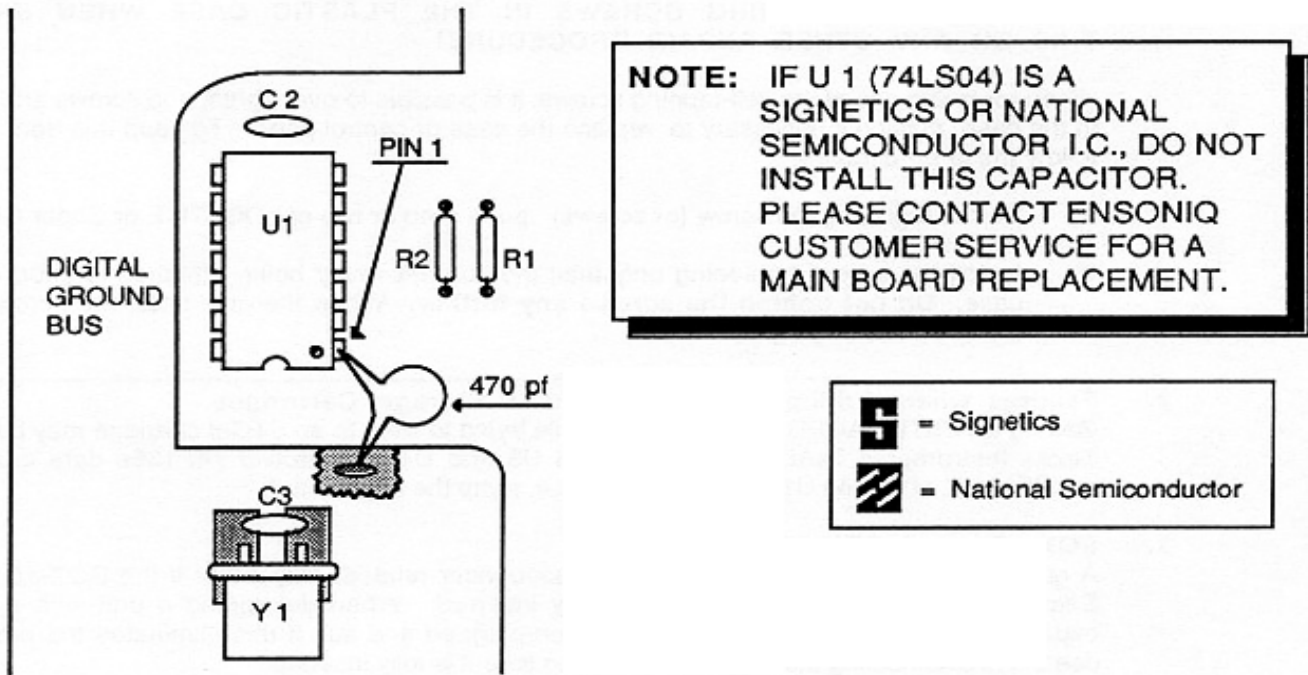

Figure 9
- A. Remove all cables, including the Power cable, from the ESQ-1. Remove the four (4) screws that fasten the control panel and raise the control panel.
- C. Do not remove the Main board from the unit. Locate U1 (74LS04). Directly across from pin 1 of U1, scrape the solder mask coating from an area about 1/4 inch square on the digital ground bus (see Figure 9). Tack-solder a 470pf capacitor between pin 1 of U1 and the scraped area of the ground bus.